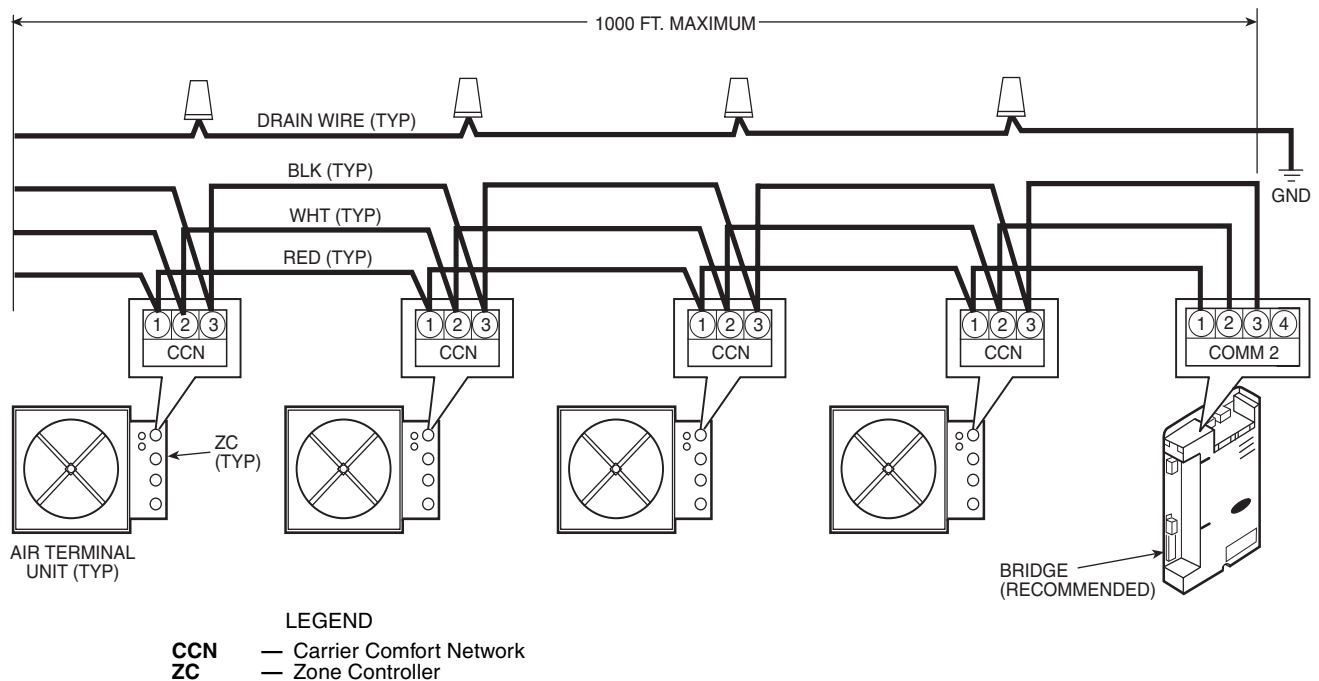

Fig. 25 — Communication Bus Wiring
The first zone controller in a network connects directly to the bridge and the others are wired sequentially in a daisy chain fashion. Refer to Fig. 25 for an illustration of CCN Communication Bus wiring.
4. Connect additional zone controllers in a daisy chain fashion, following the color coded wiring scheme in Table 3. Refer to Fig. 25.